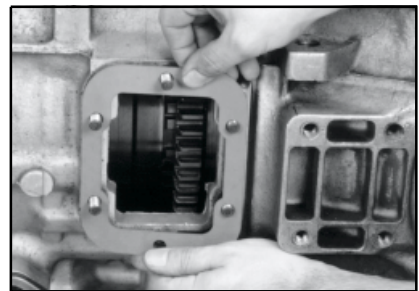

Figure 5
The 250 Series requires (1) 35-P-41 gasket for installation and no backlash to check (Fig 5).